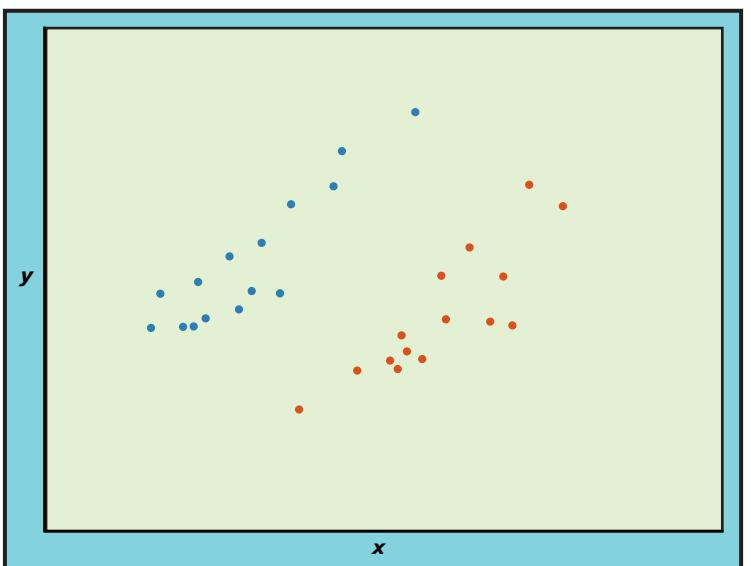

FIGURE 2.20 The variables in this scatterplot have a small correlation even though there is a strong correlation within each of the two clusters.
A study of housing conditions in the city of Hull, England, measured several variables for each of the city's wards. Figure 2.20 is a simplified version of one of the study's findings. The variable x measures how crowded the ward is. The variable y measures the fraction of housing units that have no indoor toilet. We expect inadequate housing to be crowded (high x) and lack toilets (high y). That is, we expect a strong correlation between x and y . In fact the correlation was only $r = 0.08$. How can this be?
Figure 2.20 shows that there are two clusters of wards. The wards in the lower cluster have a lot of public housing. These wards are crowded (high values of x), but they have low values of y because public housing always includes indoor toilets. The wards in the upper cluster lack public housing and have high values of both x and y . Within wards of each type, there is a strong positive association between x and y . In Figure 2.20, $r = 0.85$ and $r = 0.91$ in the two clusters. However, because similar values of x correspond to quite different values of y in the two clusters, x alone is of little value for predicting y . Analyzing all wards together ignores the lurking variable—amount of public housing—and hides the nature of the relationship between x and y .²³
- 2.64 **Education and income.** There is a strong positive correlation between years of education and income for economists employed by business firms. In particular, economists with doctorates earn more than economists with only a bachelor's degree. There is also a strong positive correlation between years of education and income for economists employed by colleges and universities. But when all economists are considered, there is a *negative* correlation between education and income. The explanation for this is that business pays high salaries and employs mostly economists with bachelor's degrees, while colleges pay lower salaries and employ mostly economists with doctorates. Sketch a scatterplot with two groups of cases (business and academic) illustrating how a strong positive correlation within each group and a negative overall correlation can occur together. (Hint: Begin by studying Figure 2.20.)